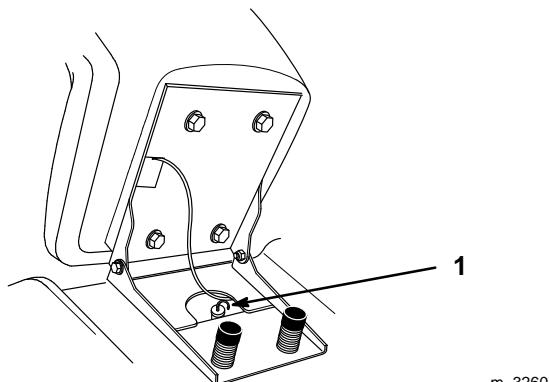

Figure 45
4. Clean around the transmission dipstick (Fig. 45) so dirt cannot fall into the filler hole and damage the transaxle.
5. Pull out the transmission dipstick and wipe the metal end clean (Fig. 45).
6. Slowly pour the specified refill capacity of oil into the filler tube (Fig. 45).